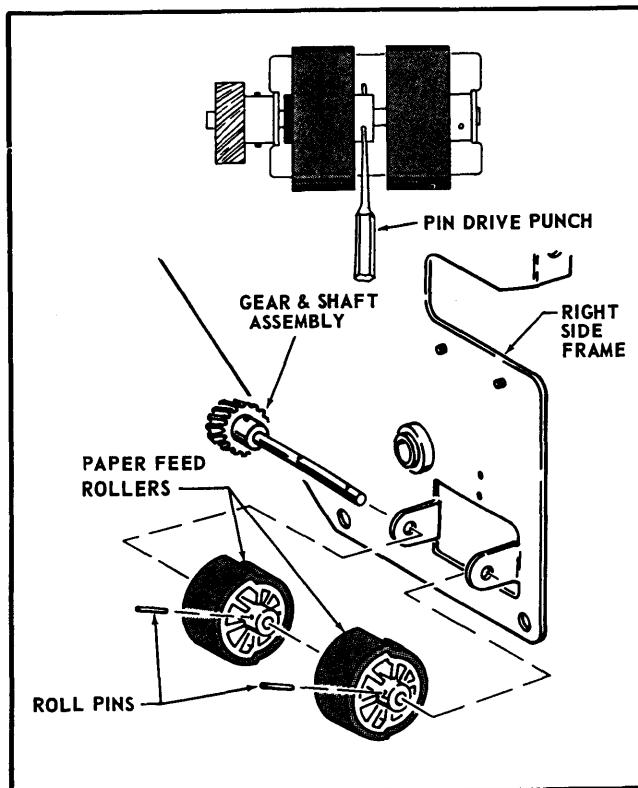

Figure 7.
K. If the Feed Rollers are attached with Roll Pins use a 3/32" drive pin punch to drive the Roll Pin out of each Roller and pull the Paper Feed Roll Gear And Shaft Assembly out of the Frame Assembly. The Rollers will slide off the Shaft. See Figure 7.